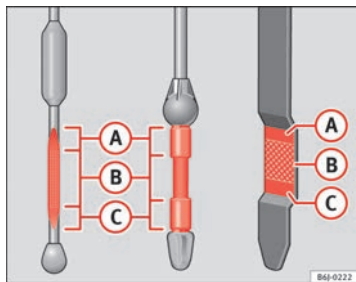

Fig. 163 Engine oil dipstick
- Then pull it out once more and check the oil level ⇒ fig. 163. Top up with engine oil if necessary.